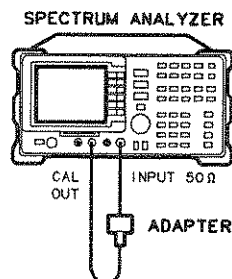

Figure 3-11. Resolution Bandwidth Switching Uncertainty Test Setup
1. Connect the CAL OUT to the spectrum analyzer input using the BNC cable and adapter, as shown in Figure 3-11. *Option 001:* Use the 75 Ω cable and omit the adapter.